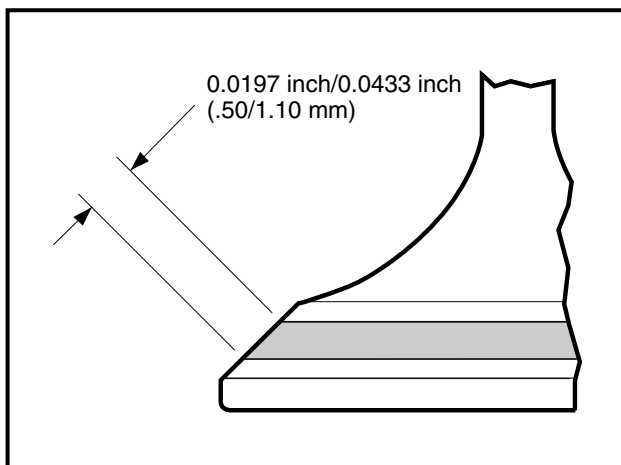

Figure 2-19 Check Mark on Valve Head
5. Pull the valve out and check the mark on the valve head. It must be 0.0197 - 0.0433 inch (.50 - 1.10 mm) in width and even all the way around the seat and valve (**Figure 2-19, Page 2-11**).